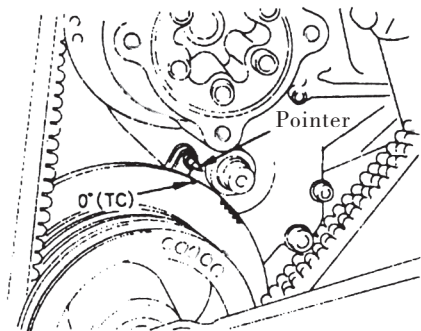

Fig. 1.11
(1) Turn the crankshaft clockwise and make the “TC” mark of belt wheel shock absorber coincide with the needle.
(2) Open the manhole cover and make sure the mark of the bottom plate and position of the needle. If the mark of the bottom plate coincides with the needle position, it indicates the upper dead point on the compression stroke of the first cylinder, adjust the clearances of the air gate with “△” and “※” as well. The clearance value of the air gate: 0.4mm (When it is under cooling state, the air suction and exhaustion are of the same value.) For details, please refer to Figs 1.11, 1.12, 1.13